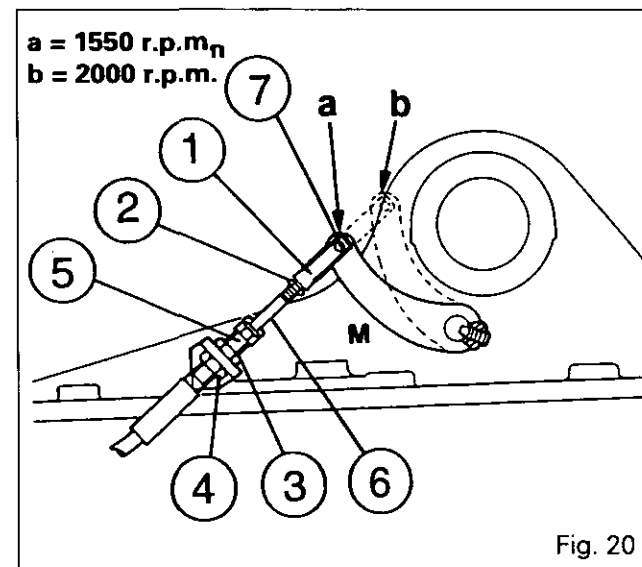

Fig. 20
- 128. Put the lever **M** into the «Economic - 1550 r.p.m.» position **(a)** as in Fig. 20 (stop in contact with the compound pinion, fork locked)